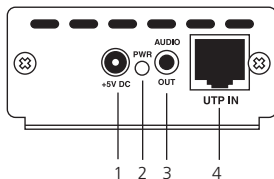

Figure 2-1. Side 1 panel.
Figure 2-1 shows the receiver's Side 1 panel. Table 2-1 describes its components.
2. Using Category 5 cable, connect the output of the splitter to the AC155A-R3 receiver's UTP IN connector. (See Figure 2-1.)